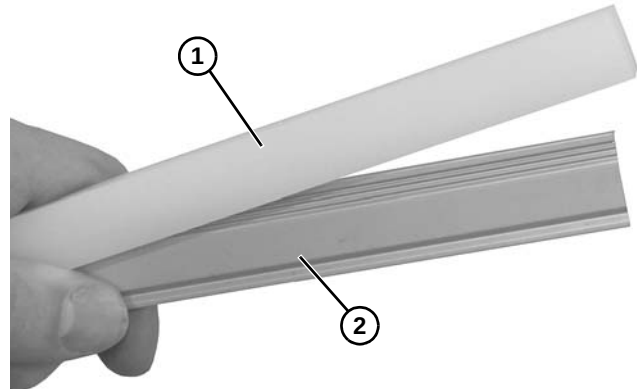

Figure 39
4. Attach wear strip (**Figure 39, item 1**) to guiding (**Figure 39, item 2**).